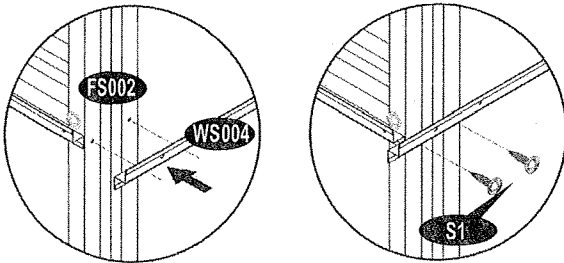

Fig. 9
**13.** Fix assembled wall middle support left (**WS004 & WS005**) and right (**WS004 & WS006**). Secure with (**S1**) screws on both ends and (**S2**) screws at the middle. See. Fig. 9 & 10.